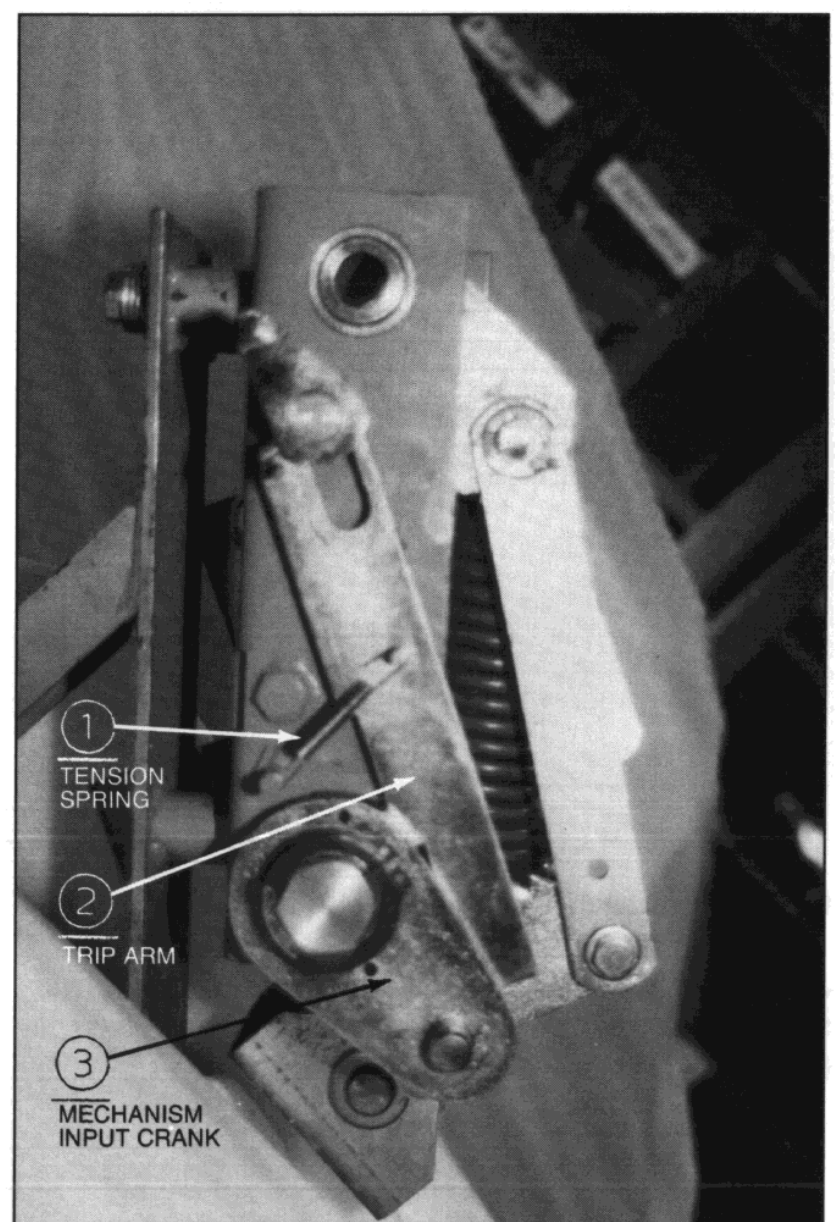

Figure 11
- b. Note Figure 11. Remove tension spring #1 from trip arm #2 and position trip arm #2 so it cannot engage with the notch on the mechanism input crank #3 or bind during mechanism operation.
l. Figure 11, Place trip arm (#2) back in its original position and replace tension spring (#1)